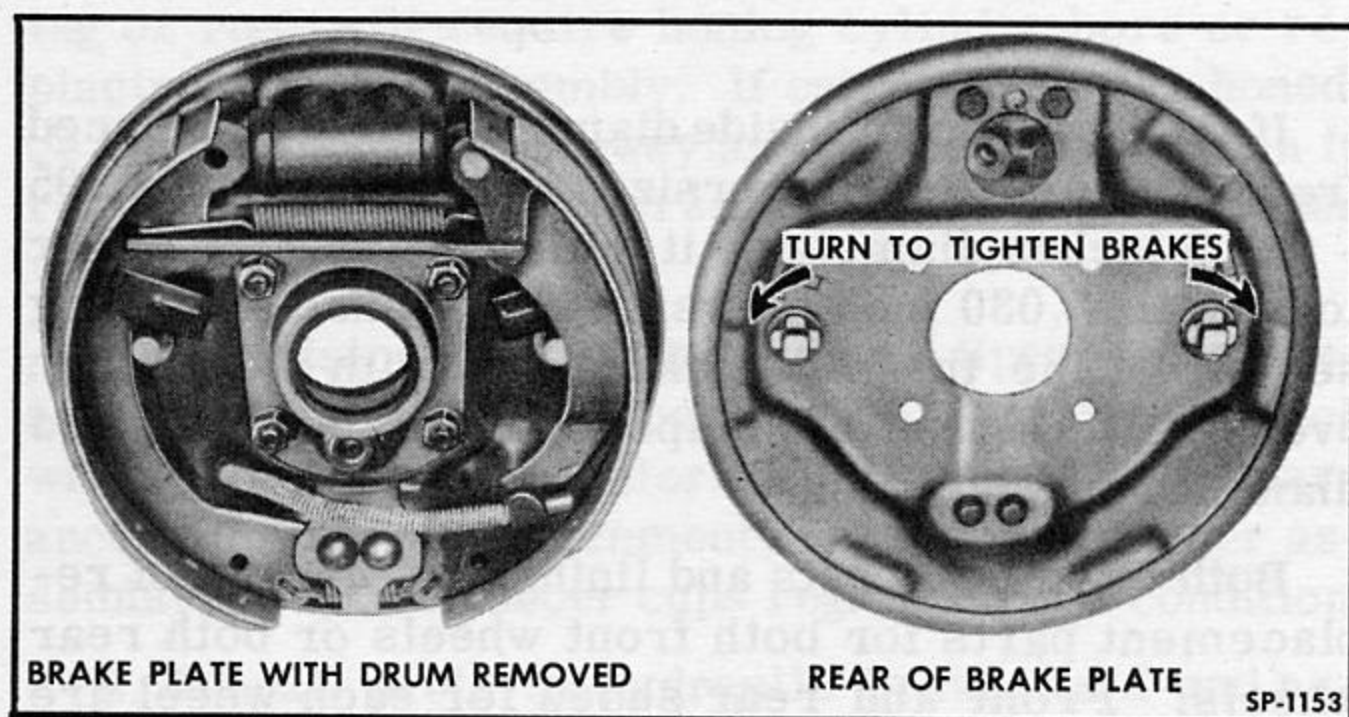

Fig. 209—Brake Support Plate and Adjustment Cams
3. Place wrench on cam with handle pointing outward from axle or spindle and tighten cam by swinging wrench downward (Fig. 209).